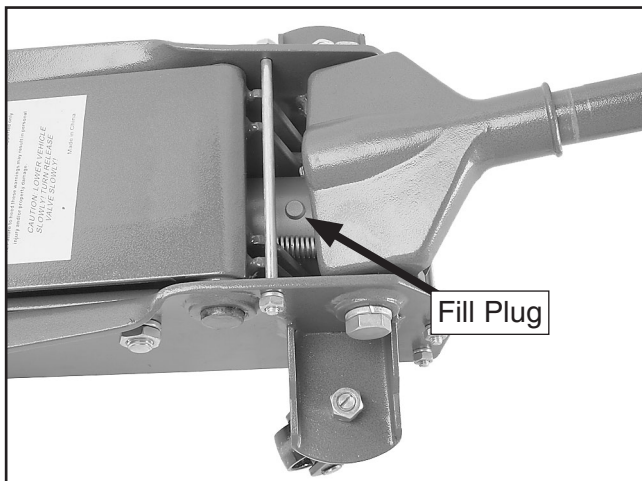

Figure 2. Fill plug.
2. Remove the fill plug shown in **Figure 2**.